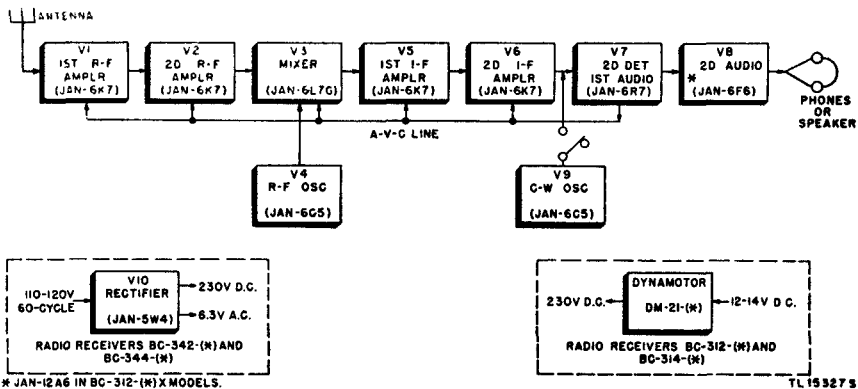

Figure 17. Receiver simplified block diagram.
a. RADIO RECEIVERS BC-312-(\*), BC-342-(\*), BC-314-(\*), and BC-344-(\*), are similar in design with the exception of their frequency coverage and supply voltage. A simplified block diagram of the receivers is given in figure 17. The received signal from the antenna is applied to the first r-f amplifier stage, V1, where it is amplified before being fed to the second r-f amplifier stage, V2. The two r-f amplifier stages each use a Tube JAN-6K7 high-gain pentode to provide a high degree of selectivity and sensitivity while rejecting interfering signals at intermediate or image frequencies. The amplified r-f signal is then applied to the mixer or converter stage, V3, along with the output of the r-f oscillator stage, V4. The r-f oscillator signal beats against the
d. Two sources of plate voltage are provided for the receiver circuits. (See fig. 17.) Radio Receivers BC-312-(\*) and BC-314-(\*) are designed for operation from a battery source and are equipped with a dynamotor to convert the 12- to 14-volt battery supply into 230 volts direct current. Radio Receivers BC-342-(\*) and BC-344-(\*) are designed for operation from a 110- to 120-volt, a-c supply and are equipped with a vacuum tube rectifier, V10, to convert the a-c supply voltage into direct current for operation of the receiver circuits.